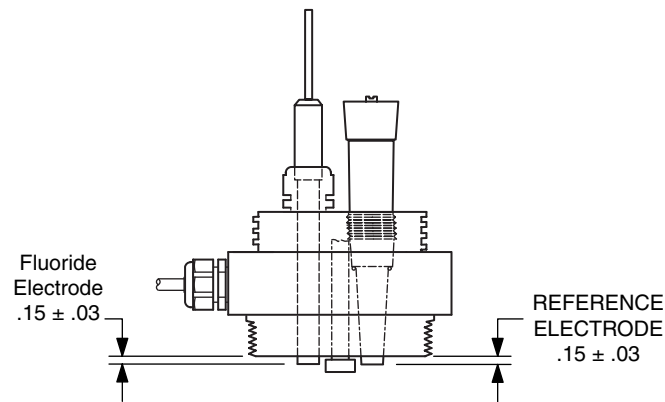

Figure 4. Electrode Depth
- d. When the fluoride electrode is fully seated, the sensing end of the electrode should protrude into the flow cell by about 0.15 ± 0.03 inches. Refer to Figure 4.
- d. When the reference electrode is properly installed, the sensing end of the electrode should protrude into the flow cell by about 0.15 ± 0.03 inches. Refer to Figure 4.